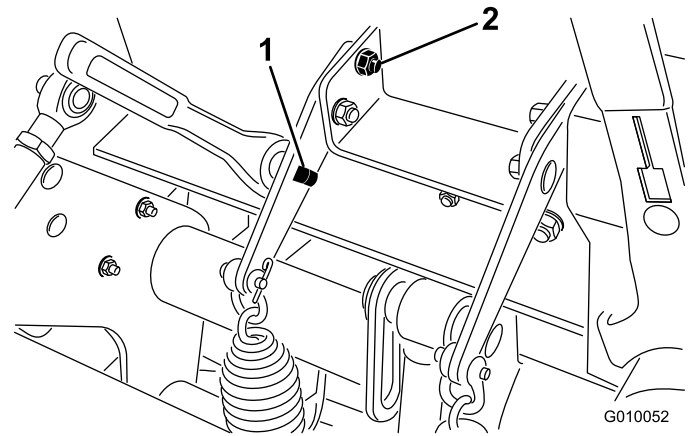

Figure 37
2. Insert a 1/2 inch ratchet or breaker bar into the square hole in the spring plate (Figure 37).